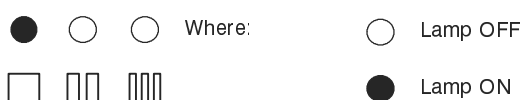

Fig. 9.10
- 3 The lamps E should give the indication as in Fig. 9.10 (reignition frequency). If not, press the reset button repeatedly to obtain it.